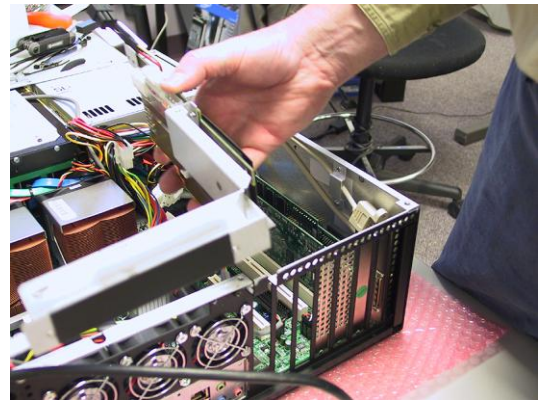

Figure 4-67
- 12) Gently lift the power distribution assembly up and away from the inner chassis (Figure 4-67).